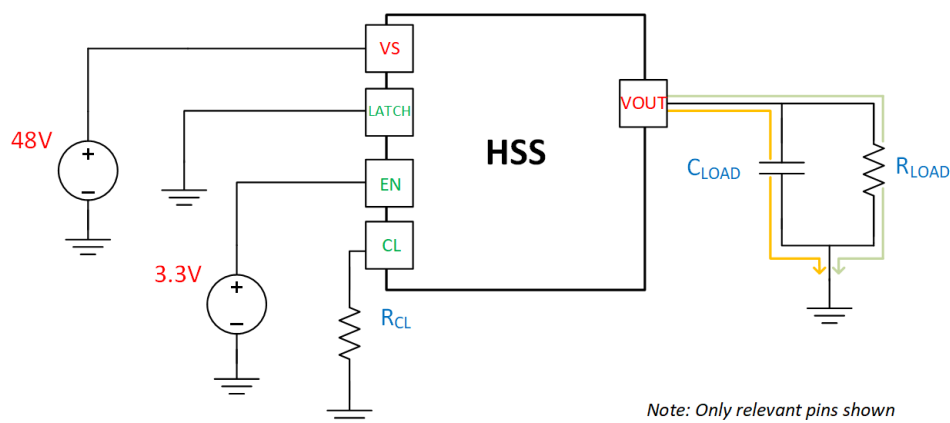

Figure 1-1. Concept Diagram
A capacitor is considered fully charged when the output voltage reaches the supply voltage (VS) level. At the same time, the capacitor stops drawing current and the resistive load begins sinking current. Figure 1-1 shows that, during start-up, current takes the orange path until the capacitor is fully charged, and then the current takes the green path. On a waveform, when the capacitor is approximately charged to VS, the current stabilizes to the level the resistive load is expected to draw, $I = VS/R_{LOAD}$.